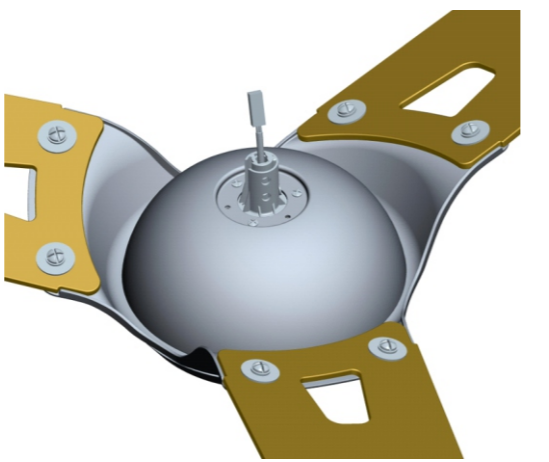

Fig 1.2
- 1.2 Three airfoils installed. (Fig.1.2)